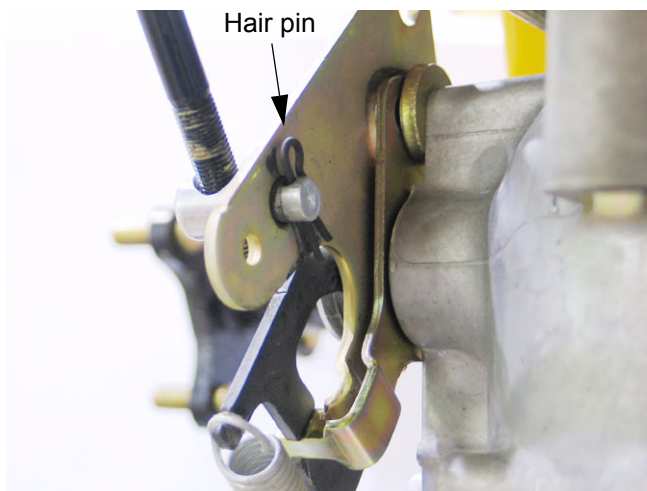

Figure 6.7
- 6.7. Remove the hairpin securing the lap bar control rod to the transmission return assembly. See Figure 6.7.